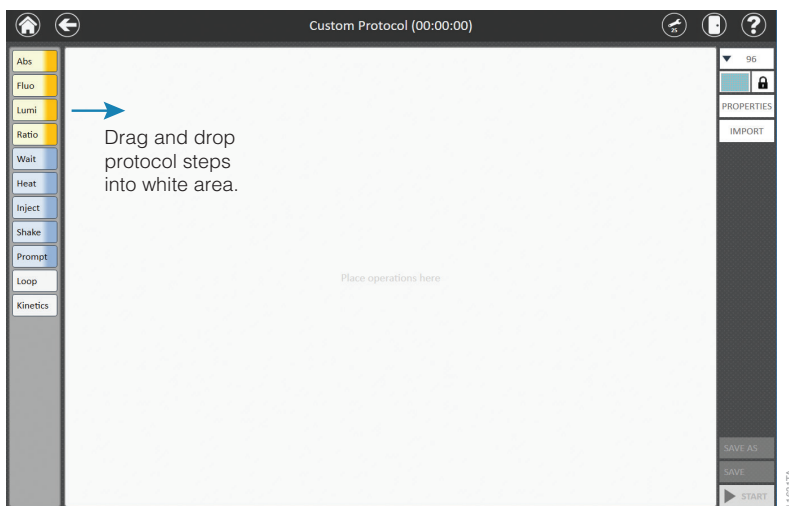

Figure 19. GloMax® Discover 'New Protocol' screen showing drag and drop feature to create custom protocols.
3. Build your protocol by dragging and dropping protocol functions from the left panel onto the **Protocol Window** (Figures 19 and 20). Individual protocol functions are described in the Protocol Functions section. Use the **Properties** button on the right to modify the name and description of the protocol.